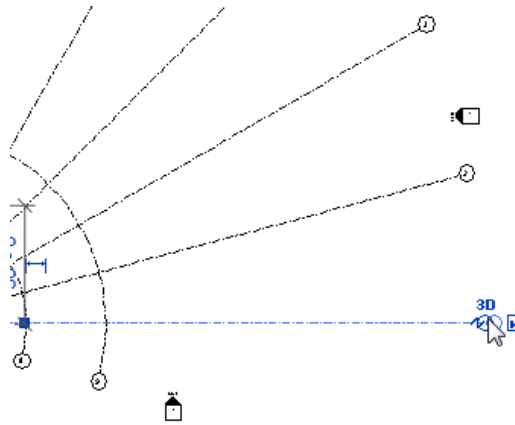

Figure 3-62 Moving the cursor toward the endpoint
1. To start resizing, select the first grid line of the project and then move the cursor towards its endpoint near the grid bubble, as shown in Figure 3-62.